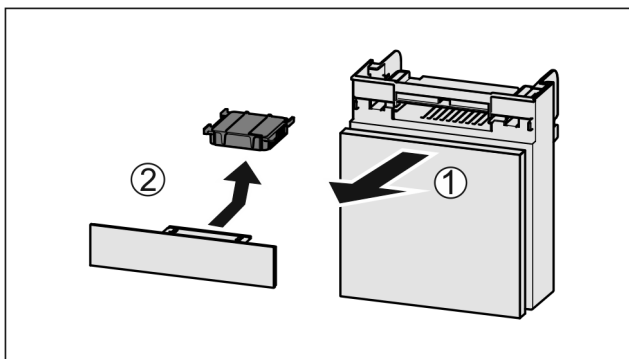

Fig. 75
- ▶ Pull out the compartment Fig. 75 (1).
- ▶ Remove the carbon filter Fig. 75 (2).